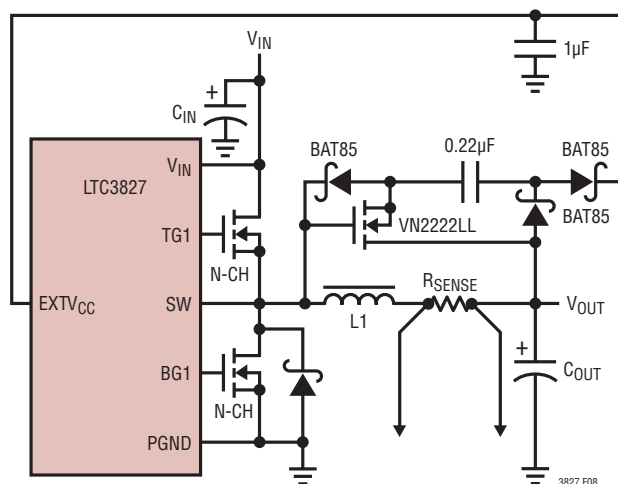

Figure 8. Capacitive Charge Pump for $EXTV_{CC}$
4. $EXTV_{CC}$ Connected to an Output-Derived Boost Network. For 3.3V and other low voltage regulators, efficiency gains can still be realized by connecting $EXTV_{CC}$ to an output-derived voltage that has been boosted to greater than 4.7V. This can be done with the capacitive charge pump shown in Figure 8.